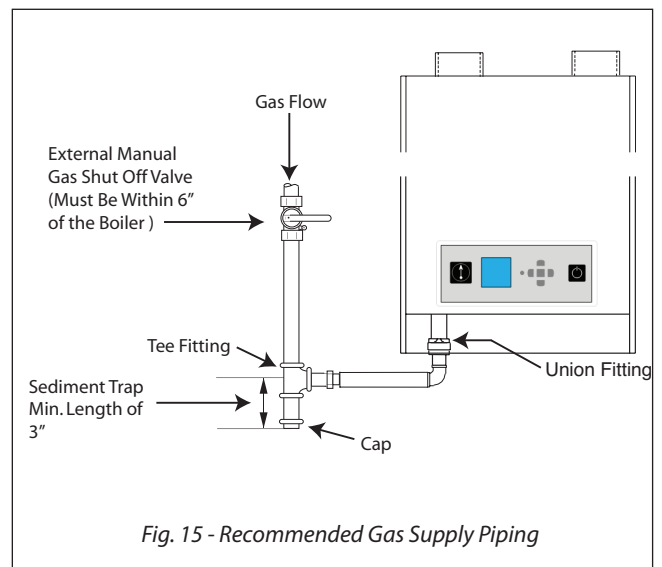

Fig. 15 - Recommended Gas Supply Piping
2. Install a manual shutoff valve in the gas supply piping as shown in *Fig. 15 below*. For installations in Canada, the installer must tag and identify the main shutoff valve.
3. Install a sediment trap (drip leg) on the gas supply line prior to connecting to the PRESTIGE Solo gas train as shown in *Fig. 15 below*.